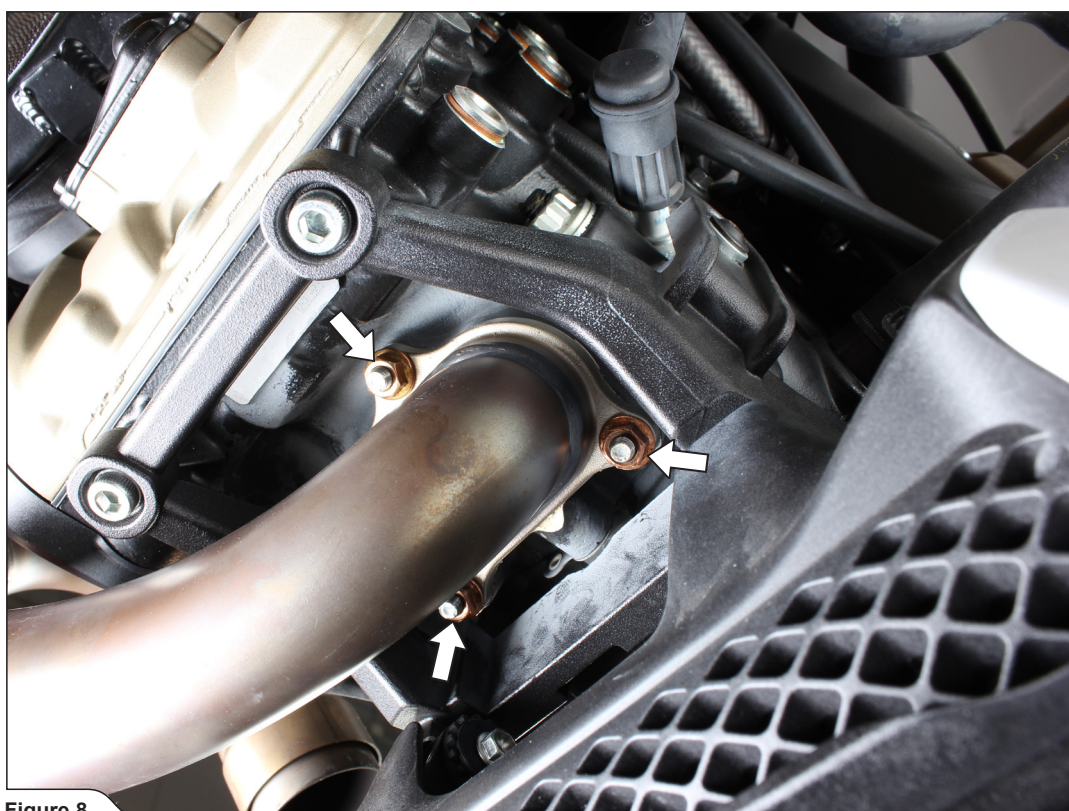

Figure 8
10. Unscrew all flange nuts and remove the front header off the motorcycle (Figure 8).